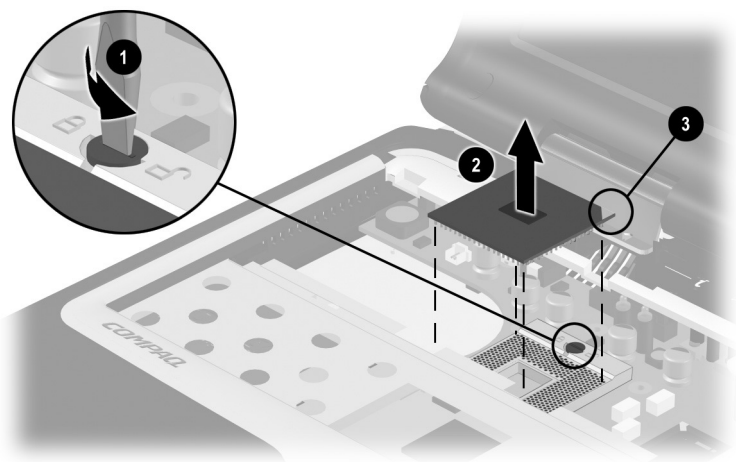

Figure 5-17. Removing the Processor
2. Use a flat-bladed tool to turn the processor locking screw ① one-half turn counterclockwise (Figure 5-17).
3. Lift the processor straight up and remove it ②.